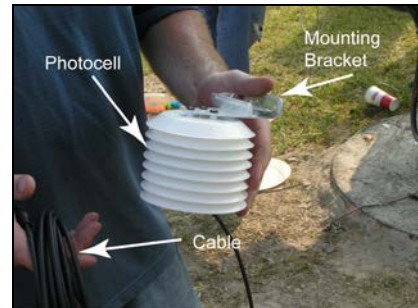

Figure 10: Photo Sensor
1. Locate the photocell. Refer to **Figure 10**.